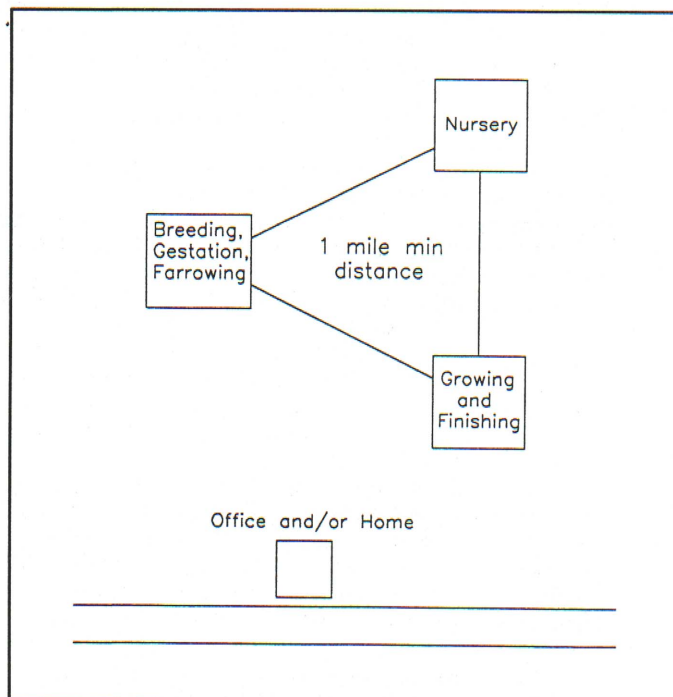

Figure 3. Multiple Site System.
**Multiple site system.** A fairly new building arrangement that is increasing in popularity with some of the larger producers, especially producers raising breeding stock, is the multiple site system. With this system, the different phases of production are separated by some distance primarily for disease control. Figure 3 depicts such a system with different locations for breeding-gestation-farrowing, nursery and growing-finishing. The distance necessary for separation is not well-defined at this time. Some producers of breeding stock would like to have up to a three mile separation, but most producers should strive to